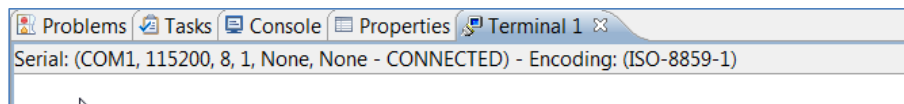

Figure 44: Terminal Connection Verification
- Verify the **Terminal** connection by checking the status at the top of the tab (FIGURE 44).